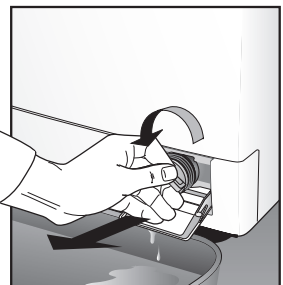

FIG 13
- Remove trap by turning it slowly counterclockwise until water appears. (Fig. 13).